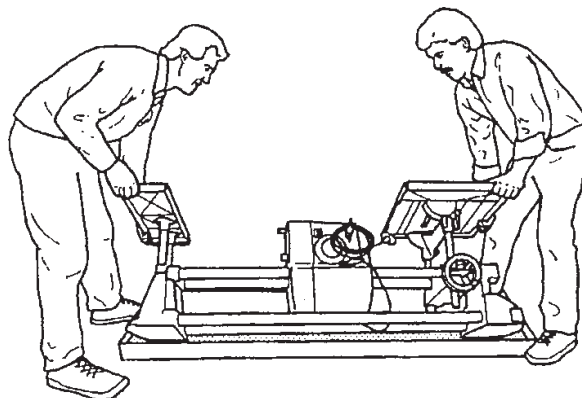

Figure B-23
7. With a helper on one end of the MARK 520S and you on the other, turn over the machine onto the cardboard. See Figure B-23. The worktable will support the machine. Take care not to scratch the table tops. Do not drop the machine, this could break the table.
With a helper on one end of the MARK 520S and you on the other, turn over the machine onto the cardboard. See Figure B-23. The extension table and the worktable will support the machine. Take care not to scratch the table tops. Do not drop the machine, this could break the table.